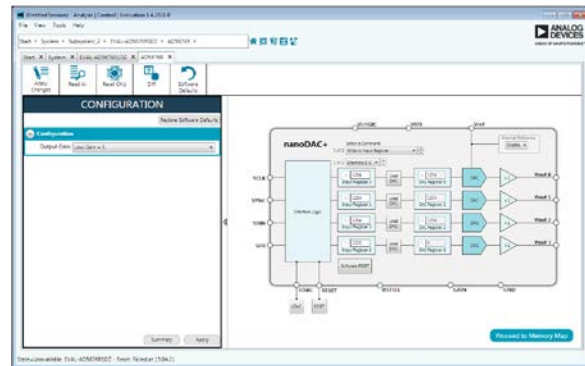

Figure 3. Chip Block Diagram View for the AD5676R
5. The chip block diagram can be accessed by double-clicking on the AD5676 or AD5676R chip. This view provides a basic representation of functionality of the board. The main functions are labeled in Figure 3.